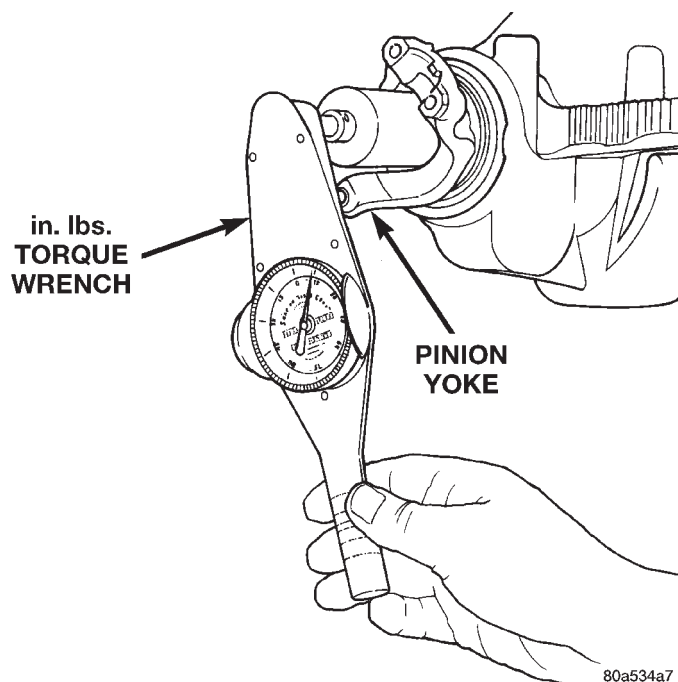

Fig. 39 Check Pinion Gear Rotating Torque
(11) Check bearing preload torque with an inch pound torque wrench (Fig. 39). The torque necessary to rotate the pinion gear should be:
(12) If rotating torque is above the desired amount, remove the pinion yoke and increase the preload shim pack thickness. Increasing the shim pack thickness 0.025 mm (0.001 in.) will decrease the rotating torque approximately 0.9 N·m (8 in. lbs.).